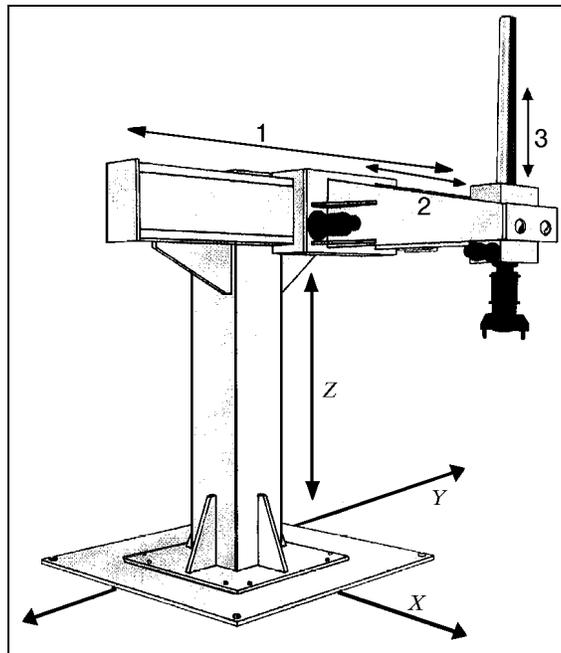

Figure 8-4
- ◆ **Cartesian Robots:** The first three joints of a Cartesian robot, shown in Figure 8-4, are linear prismatic joints, and so they are coded PPP.